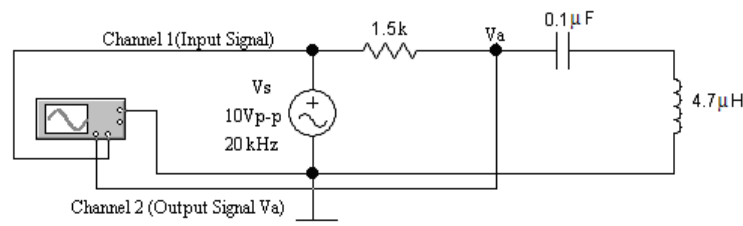

Figure 4.15
1. Construct the circuit of Figure 4.15, with the  $V_S = 10\text{ Vpp}$  at a frequency of 20 kHz,  $R_1 = 1.5\text{ k}\Omega$ ,  $C_1 = 0.1\text{ }\mu\text{F}$ , and  $L_1 = 4.7\text{ }\mu\text{H}$ .
It is desired to measure the voltage peak-to-peak at point  $V_s$  and  $V_a$ , as indicated in Figure 4.15.